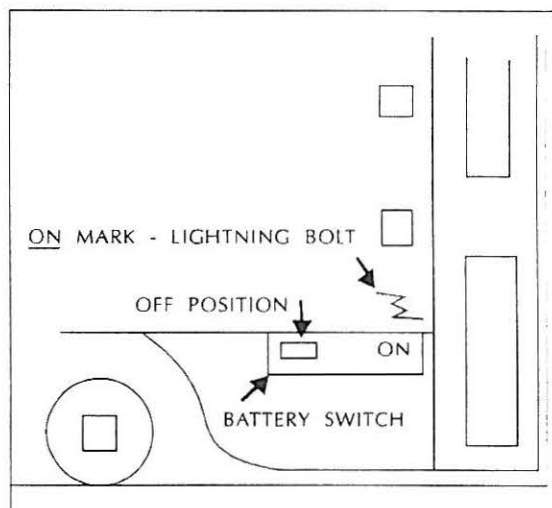

Figure 14. Battery Switch
3. Turn **on** the battery switch. This is located in a slot on the outside of the "A" end just behind the double doors (see figure 14). Pushing the bar to the right turns **on** the batteries. The car will not run without the batteries turned **on**.